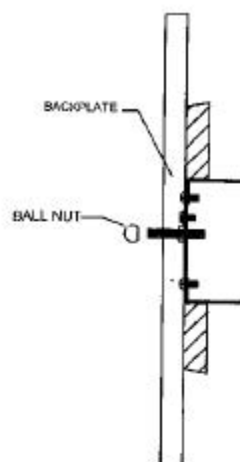
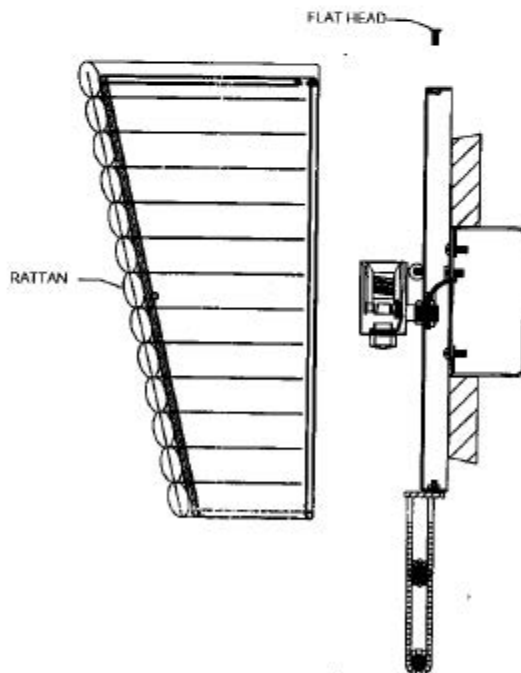

FIGURE-02
FIGURE-03
5. Attach the backplate to the mounting ring and secure it with ball nut. (See Figure-02) And install rattan on the backplate fasten it with flat head screw. (See Figure-03)